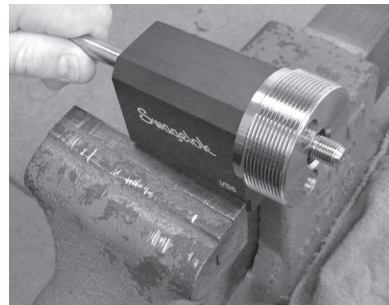

Fig. 42 Removing coned/threaded tube from vise
11. Loosen the bench vise and carefully remove the tube from the tube vise. Fig. 42.